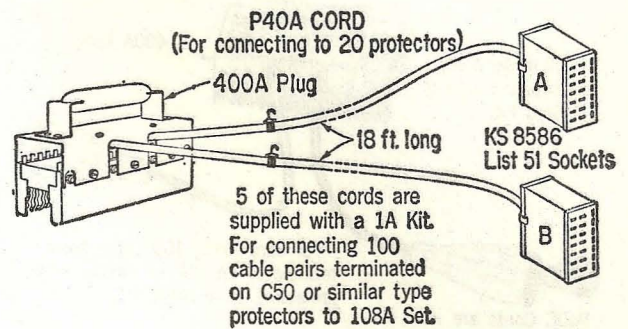

Fig. 8
- 4.06 P40A Cord:** This cord is illustrated in Fig. 8.